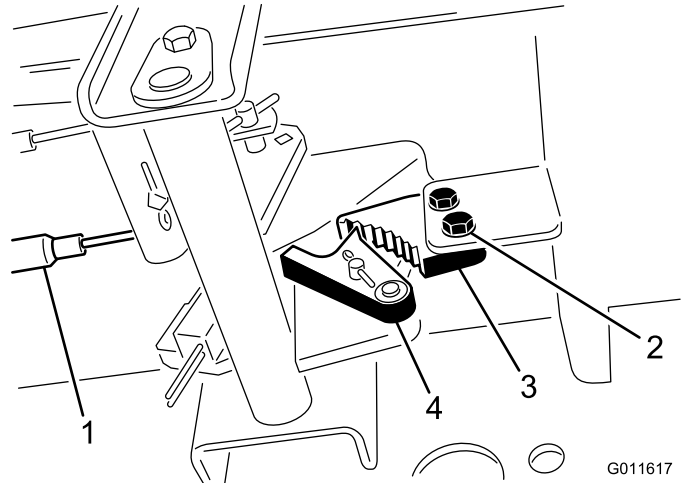

Figure 47
1. Loosen the 2 screws securing the parking brake pawl to the frame (Figure 47).
2. Press the parking brake pedal forward until the brake detent completely engages on the brake pawl (Figure 47).